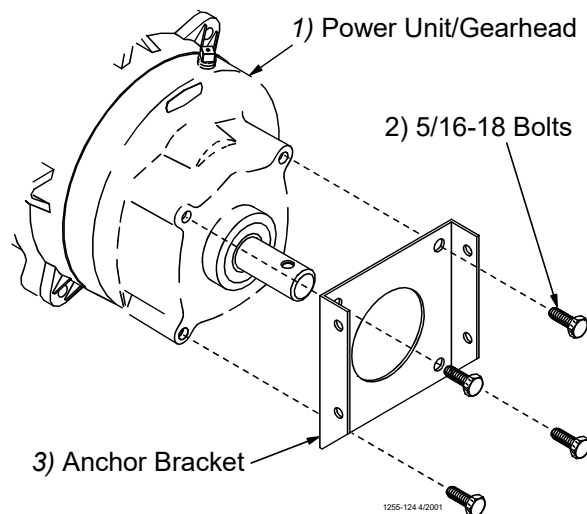

Figure 65. Assemble the Anchor Bracket to the Power Unit/Gearhead
3. Install the Anchor Bracket to the Power Unit/Gearhead, as shown in **Figure 65**, with the included 5/16-18 Bolts.